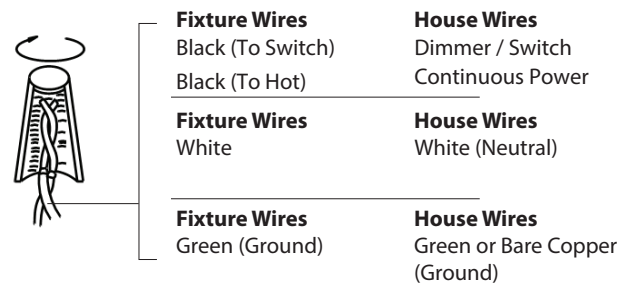

FIG 3
4. On the base plate, rotate the 2 tension clips and swing the LED Board downward to reveal the rest of the electronics (See **FIG. 3**).